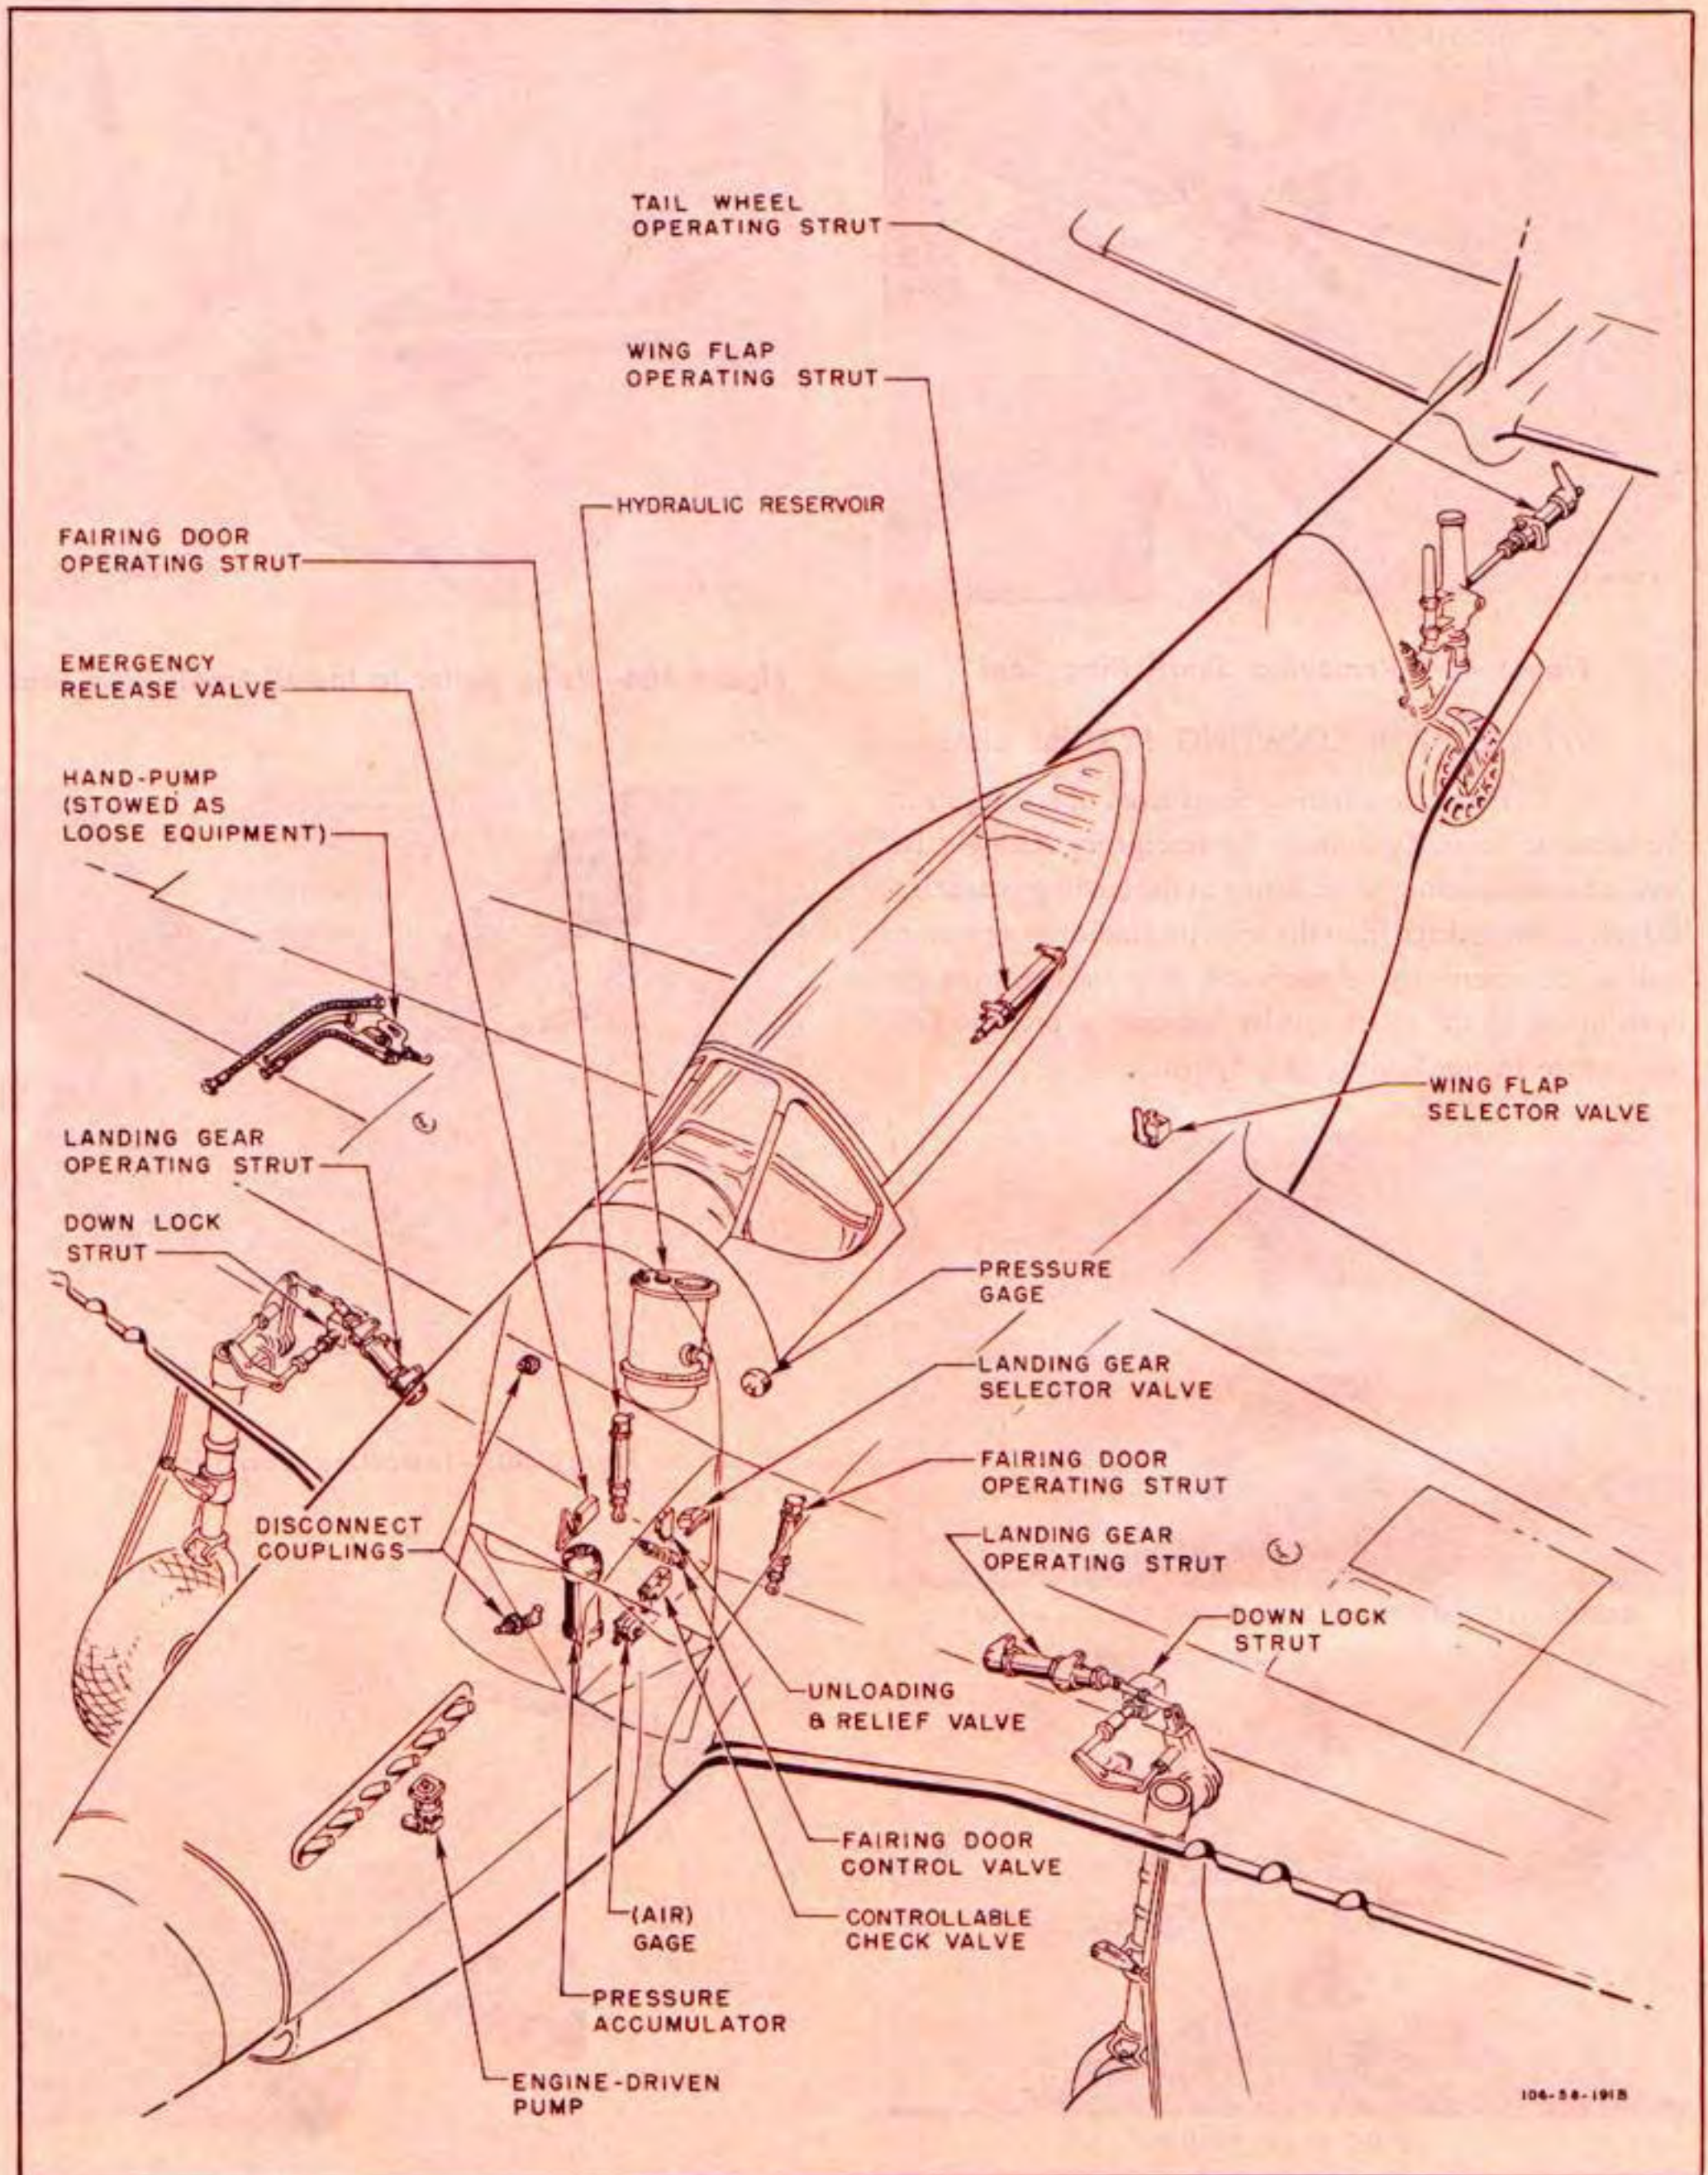

Figure 303—Hydraulic System Unit Location
(1) GENERAL.—Miscellaneous instruments include the hydraulic pressure gages, remote contactor, fuel gages, ammeter and clock. Provisions are made on the instrument panel for the remote contactor.
(2) HYDRAULIC PRESSURE GAGES.—A hydraulic pressure gage is located immediately below the pilot's switch panel. The accumulator pressure gage is on the center beam of the wing and accessible from the right wheel well.
(3) REMOTE CONTACTOR (Early Airplanes Only).—The remote contactor is concerned only with the radio equipment. (See paragraph 21. e. (10).)
(4) FUEL GAGES.—The two wing tank fuel gages are of the direct-reading magnetic type and are recessed on each side of the cockpit floor just forward of the seat. The fuselage tank gage is located in a gooseneck behind the pilot's seat. In each gage, a magnet is connected to the float arm inside the tank and the indicator needle is pivoted directly above the magnet. When the float rises or falls, the magnet is rotated accordingly, causing the needle to align itself with the magnet indicating the fuel level in the tank.
(5) AMMETER.—The ammeter, mounted on the right switch panel, indicates the current output of the generator, but does not indicate the current flowing when the batteries are carrying the electrical load.
(6) CLOCK.—A Type A-11 clock is installed on the left in the upper row of instruments. The winding knob is on the front of the clock case and the adjustment needle is accessible by removing a plug at the back of the case.
a. GENERAL DESCRIPTION OF HYDRAULIC SYSTEM. (See figure 303.)—The hydraulic system operates the landing gear, fairing doors, and wing flaps. The system operating pressure is 1050 ± 50 pounds per square inch. A separate brake system is supplied with fluid from the hydraulic system reservoir. A hand-pump, provided as loose equipment, makes it possible to operate the hydraulic system when the airplane is on the ground with the engine inoperative.